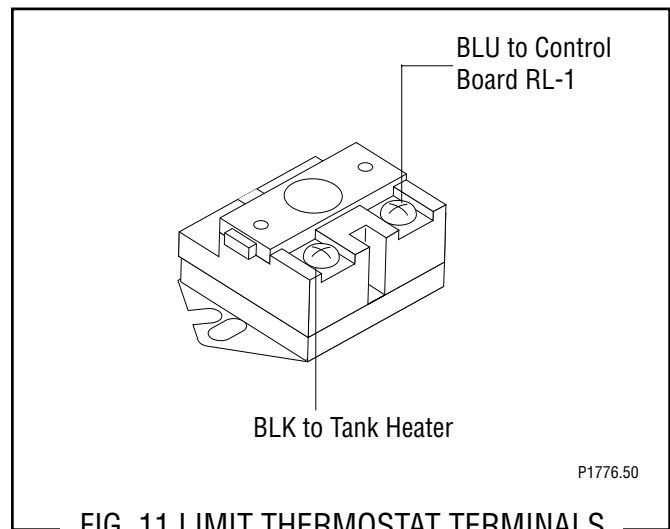

FIG. 11 LIMIT THERMOSTAT TERMINALS
4. Refer to Fig. 11 when reconnecting the wires.